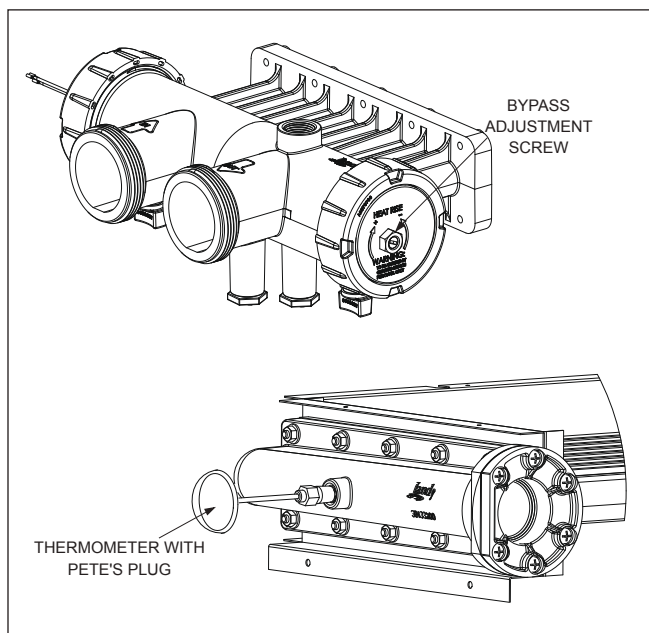

Figure 20. Temperature Rise Measurement
and remove the plastic plug protruding through the cabinet on the return header side of the heater. See Figure 20. With the plug removed, install the special thread adapter and Pete's Plug®* fitting and insert a pocket thermometer. A temperature rise measurement kit is available through your Jandy distributor. See Section 11 of this manual for the correct kit number.
6. Locate the bypass adjustment screw on the right-hand side of the header (see Figure 20). Loosen the nut so that the screw can be adjusted. A slight water leak past the nut may be expected. Turn the screw counterclockwise to decrease the temperature rise, and clockwise to increase the temperature rise as needed to achieve the ranges in Table 6. After the adjustment, tighten the nut so that no leaks occur.